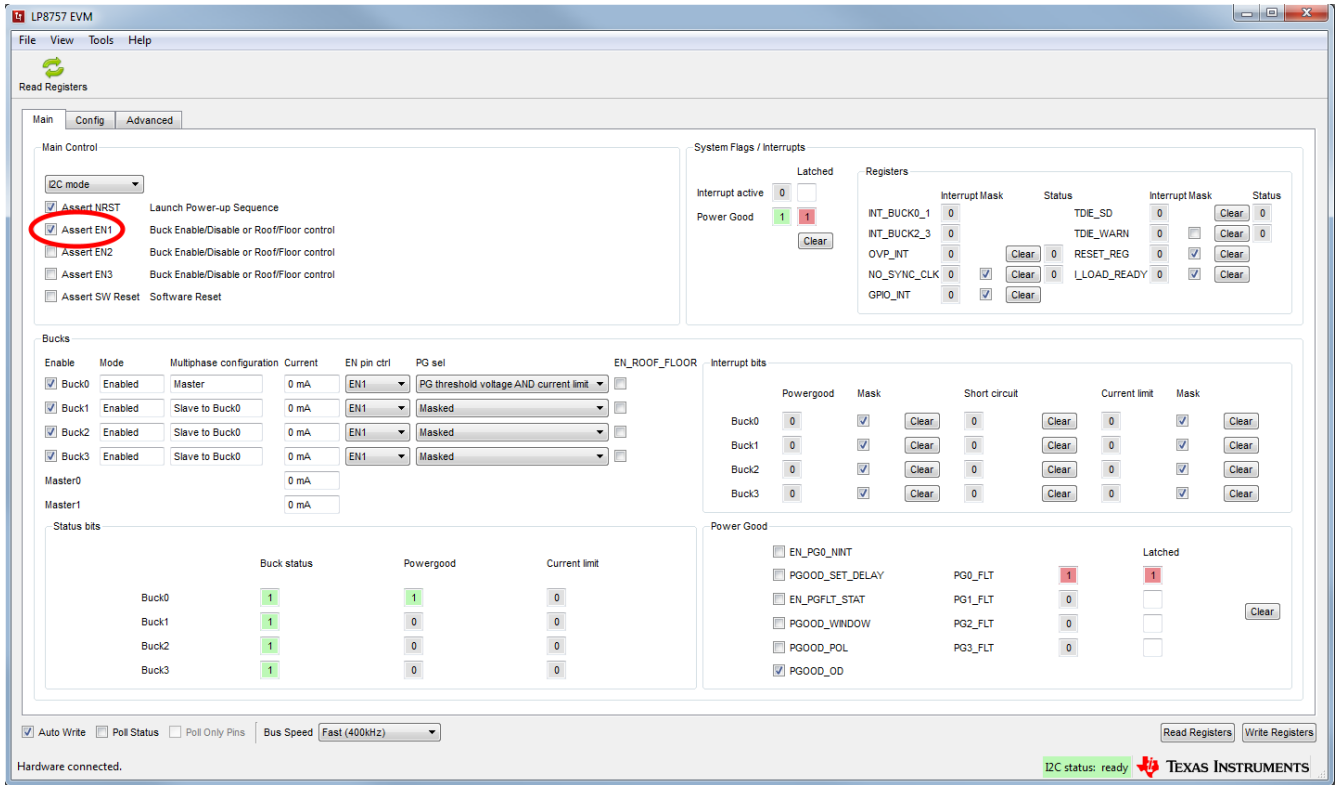

Figure 3-9. Assert EN1
4. Click on Assert EN1 (see Figure 3-9).
The Main tab (see for example Figure 3-9) has the elemental controls for the EVM and provides a view to the chip status. Starting from top, the main controls are: